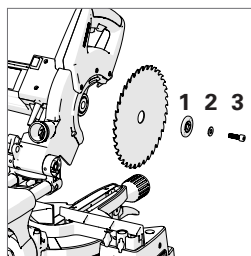

Fig. 20
Install the outer flange (1) (flat face onto the machine), washer (2) and arbor screw (3). (Fig. 20)